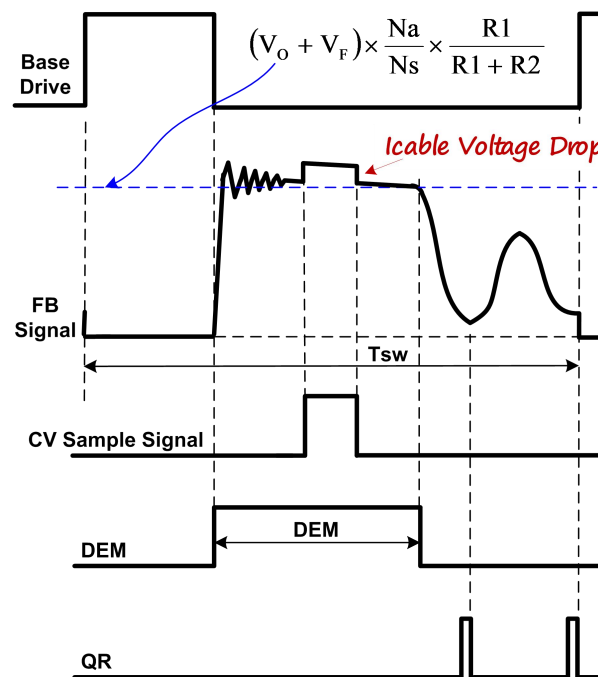

Fig.2
output voltage is sensed on the auxiliary winding during the transfer of transformer energy to the secondary. Fig.2 illustrates the timing waveform of CV sampling signal, demagnetization signal (DEM) and quasi-resonant (QR) trigger signal in DP2525E. When the CV sampling process is over, the internal sample/hold (S&H) circuit captures the error signal and amplifies it through the internal Error Amplifier (EA). The output of EA is sent to the Quasi Resonant PSR CV Modulator (QR-CVM) for CV regulation. A valley is selected to trigger new PWM cycle by the output of the QR-CVM block, which is determined by the load. The internal reference voltage for EA is trimmed to 2V with high accuracy.
During the CV sampling process, an internal variable current source is flowing to FB pin for Cable Drop Compensation (CDC). Thus, there is a step at FB pin in the transformer demagnetization process, as shown in Fig.2. Fig.2 also illustrates the equation for “demagnetization plateau”, where Vo and Vf is the output voltage and diode forward voltage; R1 and R2 is the resistor divider connected from the auxiliary winding to FB Pin, Ns and Na are secondary winding and auxiliary winding